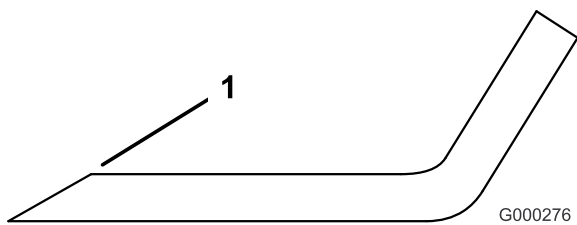

Figure 92
1. Use a file to sharpen the cutting edge at both ends of the blade (Figure 92). Maintain the original angle. The blade retains its balance if the same amount of material is removed from both cutting edges.